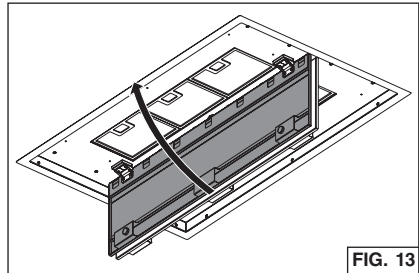

FIG. 13
3. To remove the filters for cleaning, push latch tab in to disengage filter from hood. Tilt the filter downward and remove. Fig. 13.